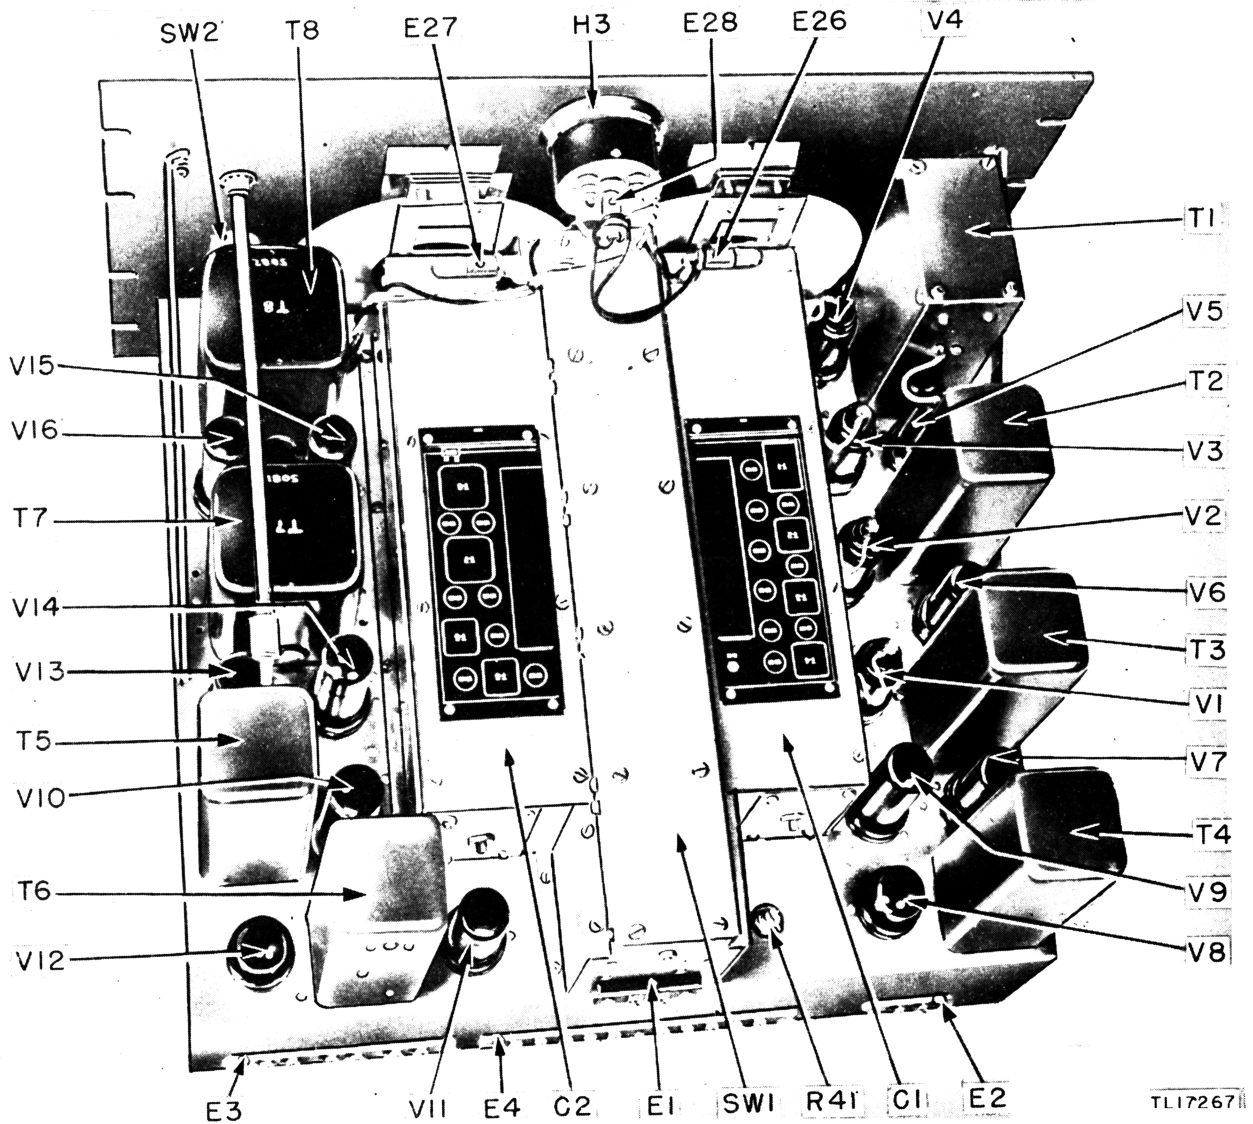

Figure 4. Top view of chassis.
9. Removal of Tubes and Pilot Lights (fig. 4)
The dial lights (I1 and I2) are 6- to 8-v, 0.15-amp miniature screw base lights, and can be seen mounted in their sockets directly behind the tuning dials. The meter light (I3) is a 6- to 8-v, 0.15-amp miniature bayonet base type and is mounted into the S-meter. (See fig. 4 for placement of tubes.)
To provide smooth motion in moving parts, lubricants are not recommended. Binding posts may be polished or cleaned. The plunger arms in the phasing adjustment, figure 5, may be eased with a light coat of petrolatum, U. S. Army 2-67A. This same procedure may be used on the plunger shafts in transformers T2, T3, and T4, see figure 4.
d. REPLACEMENT OF TUBES. When resistance measurement requirements have been properly met, replace the tubes in their proper sockets. See figure 4 or the location diagrams riveted to the top of the tuning unit.